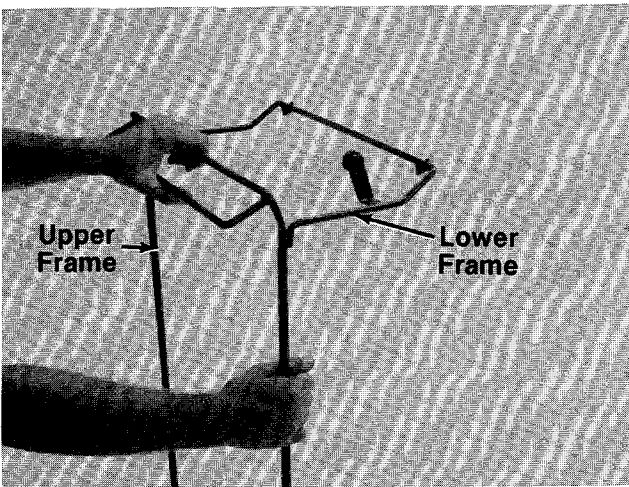

FIGURE 8.
1. Join the upper frame and lower frame assembly as shown in figure 8.